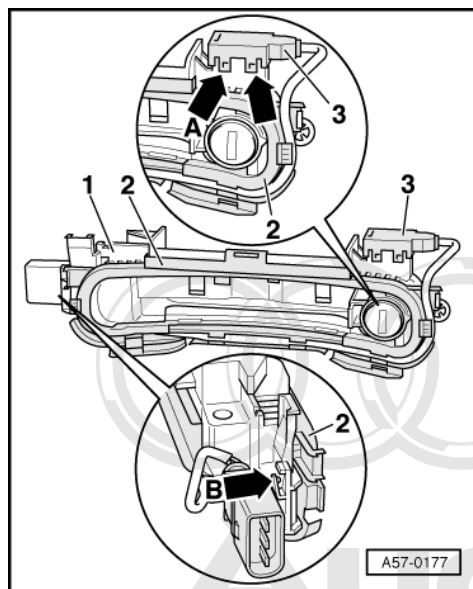

Fig.1 -> Removing and installing microswitch
- ♦ Removing and installing => Fig. 1 .